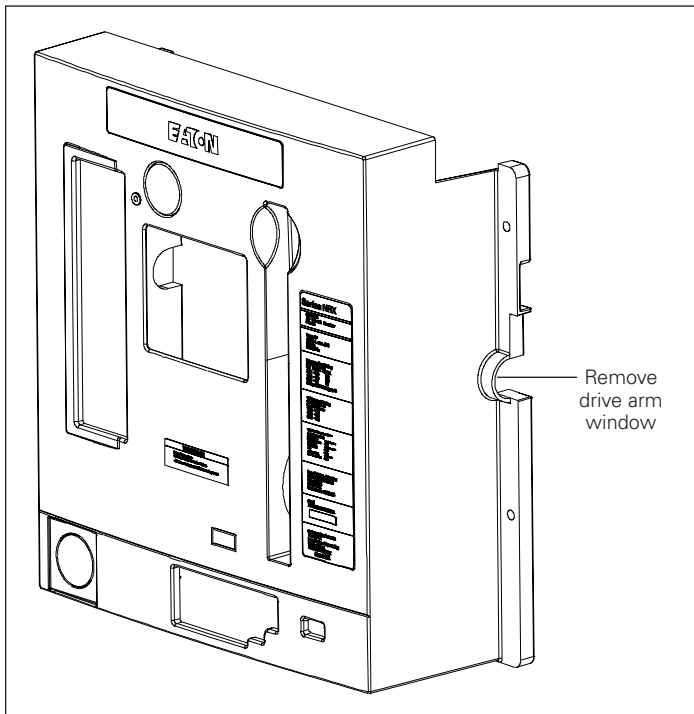
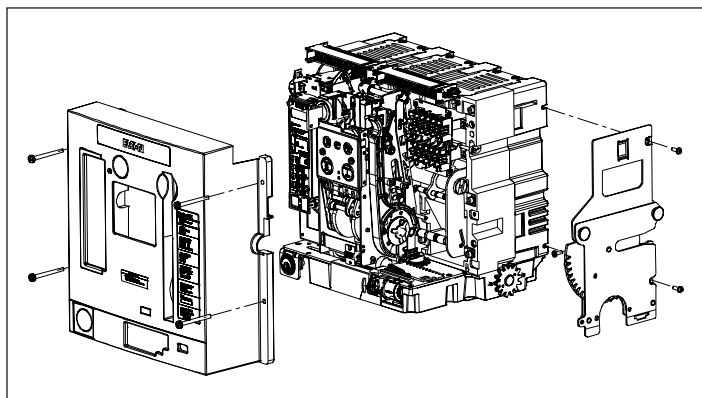
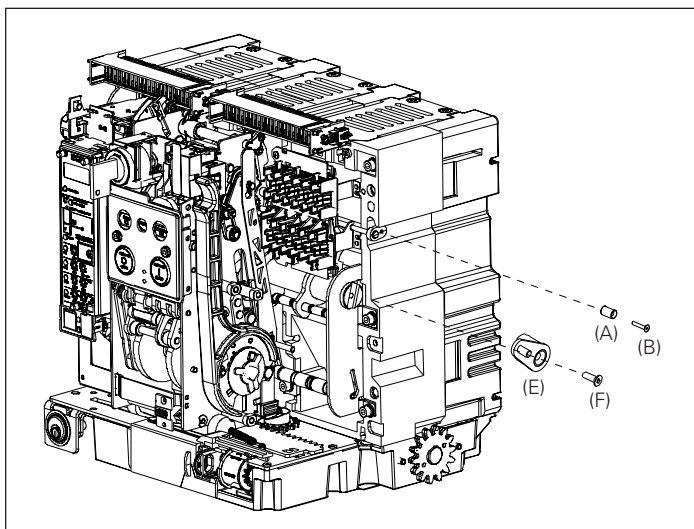
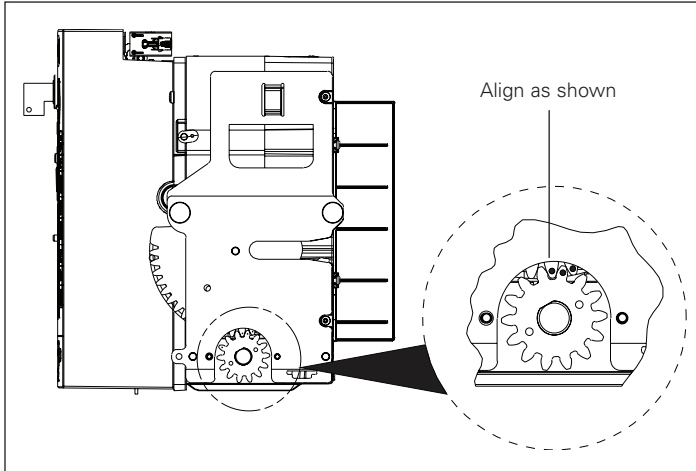

Figure 5. Details for Step 1
Figure 4. Details for Steps 1 and 2
Figure 6. Details for Steps 3 and 4
Figure 7. Details for Step 4
Remove the four screws (six for 4-pole breaker) holding the cover in place. Pull down on the charging handle and remove the front cover as shown in **Figure 4**. Remove drive arm window as shown in **Figure 5**. Either use a utility knife to cut the window from the cover or use a punch and a small hammer to carefully punch out the window. Once the window is removed, use a small file to remove any burrs that remain. Make certain that all pieces and/or particles are cleaned up and removed before proceeding.
Install the drive arm (E) to the end of the pole shaft using one M6 x 35 mm flathead screw (F) as shown in **Figure 6** and **Figure 7**. Apply LoctiteT Blue 242 to ensure that the screw cannot loosen during operation. The drive arm should be oriented as shown in **Figure 4** and **Figure 5**. Torque to 7,3–9,6 N·m (65–85 in-lb).
Install the trip pin (A) to the trip bar using an M3 x 16 mm flathead screw (B) as shown in **Figure 6** while holding the trip bar with an adjustable wrench. Apply Loctite Blue 242 to ensure that the screw cannot loosen during operation. Torque to 0,3–0,6 N·m (3–5 in-lb). Replace levering device side plate as shown in **Figure 7**.